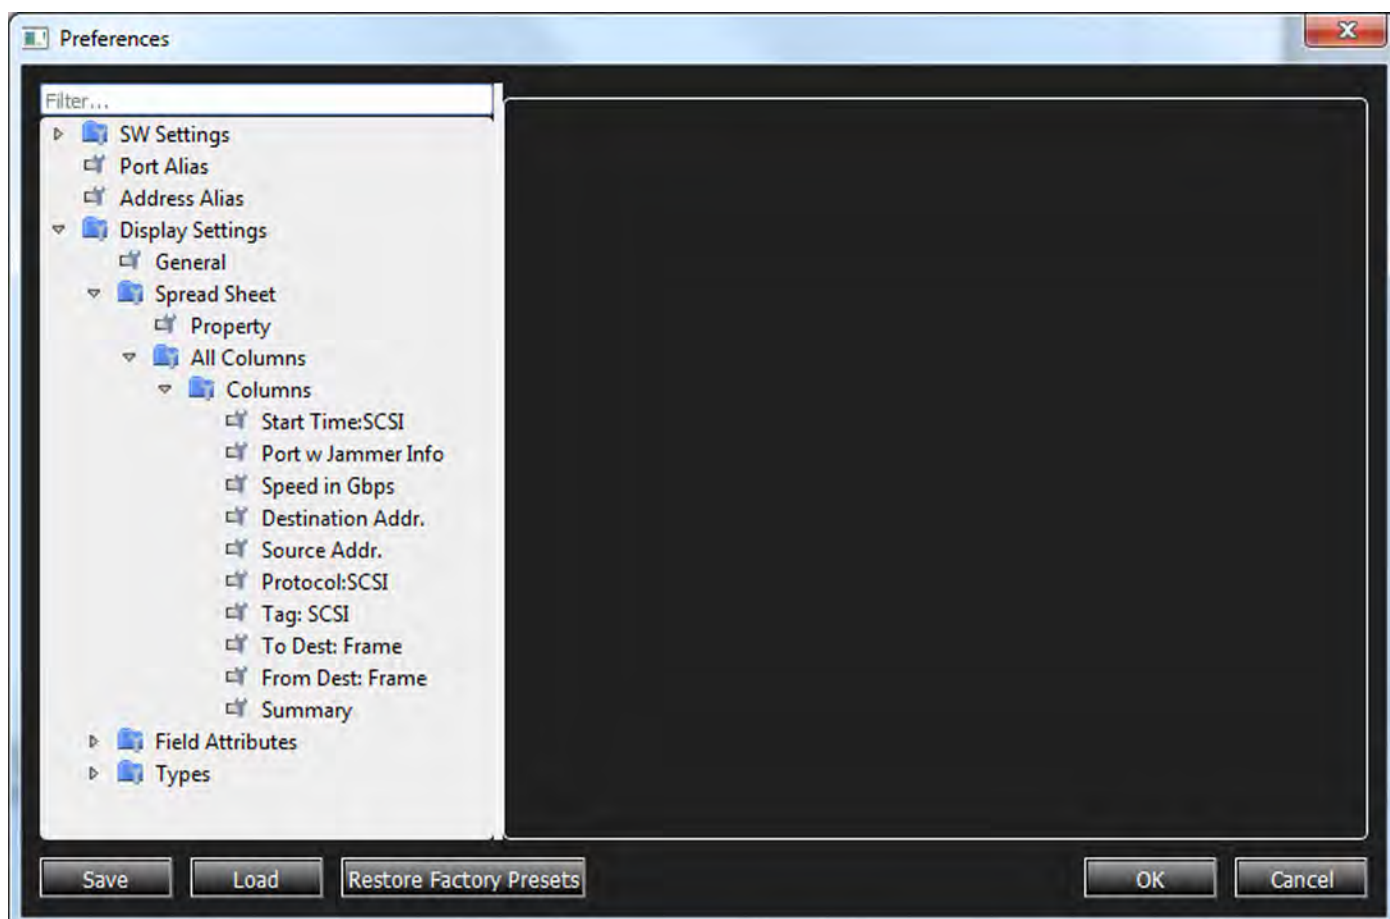

Figure 3.73: New Set of Columns Loaded
- When you load a Trace, the set of Columns settings you selected is displayed (Figure 3.73).